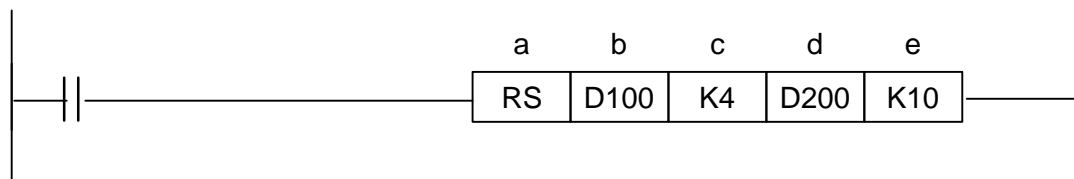

Figure 3-3 The RS instruction layout
The RS instruction has 5 parts to it, as shown in Figure 3-3.
- c) The transmit message buffer length - This defines the number of characters in the message that is to be transmitted. Each character will be stored sequentially in a stack of data registers. The value of the buffer length can be a decimal 'K' value, as shown in Figure 3-3, hexadecimal 'H' value, or a data register 'D' value. It is useful to use data registers if the message length will vary.